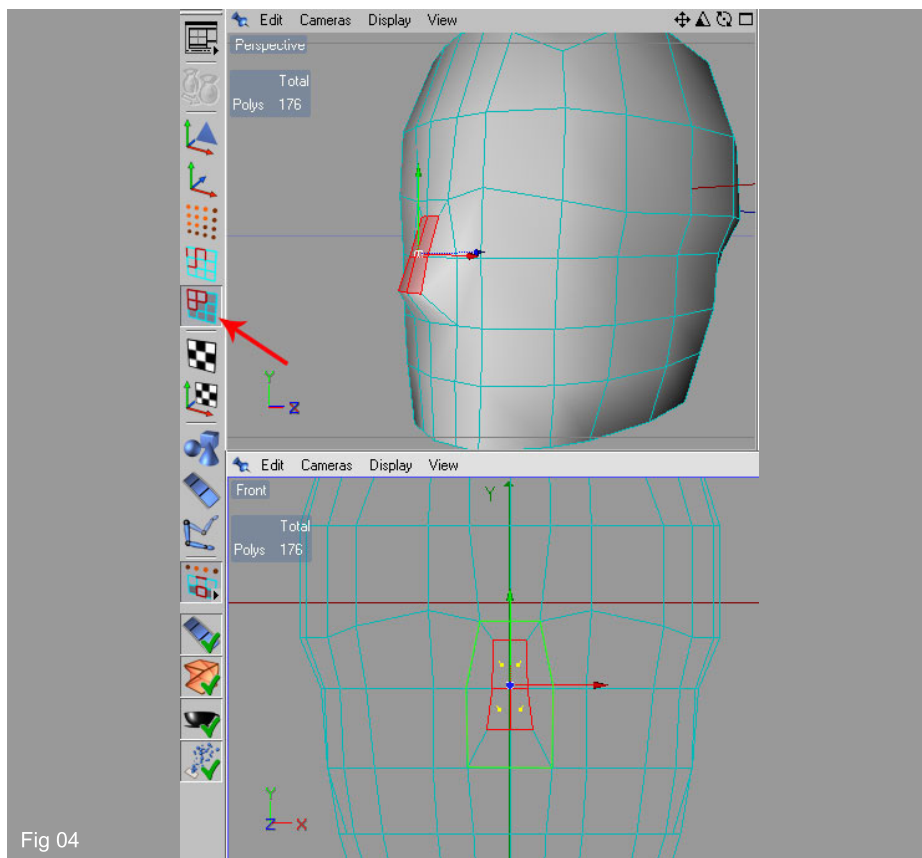

Fig 04
4. It's now time to add some of the features. Select the two central polygons (marked in green), right click and select "Bevel" from the menu. Adjust the points as shown in Fig 04.